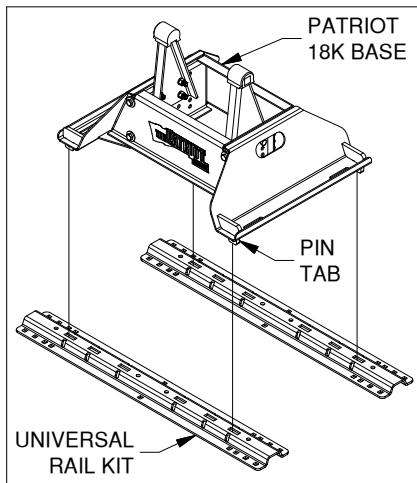

Figure B1: Rail Attachment
1. The Patriot 16k base will mount to a rail kit in the truck bed. Remove any debris and/or obstructions from the bed. Place the Patriot 16k base over the rail attachment points and carefully lower it until the pin tabs pass through the attachment points and the base rests flat against the top of the rails, see Figure B1.